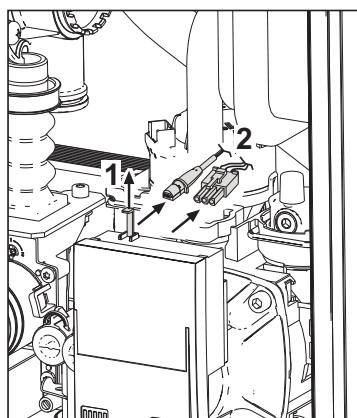

fig. 37
- Electrically disconnect the circulating pump, releasing the connections by raising the detail “1” of fig. 37.